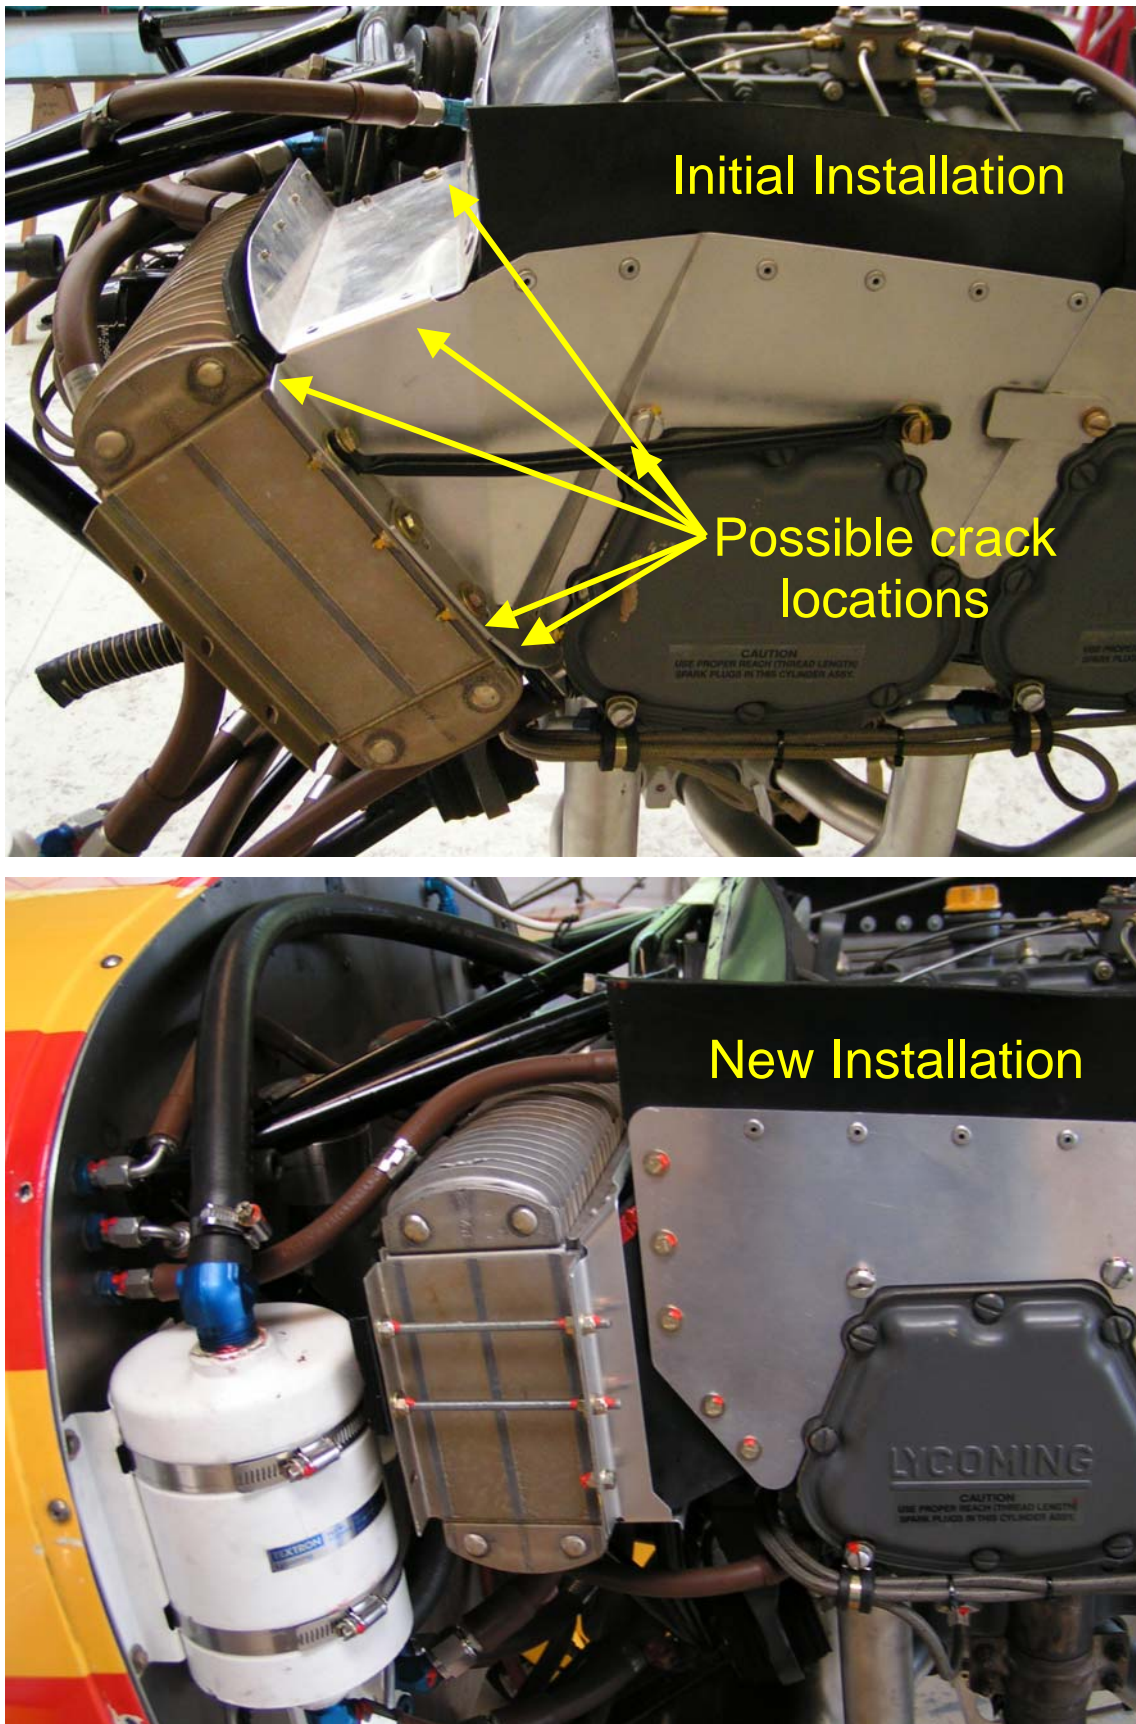

Fig. 7: Possible crack locations on current installation and view of new installation.
- If installed, also remove reinforcement rod on outside head cooling baffles, see Figure 7 (not on all aircraft, not needed for new installation).